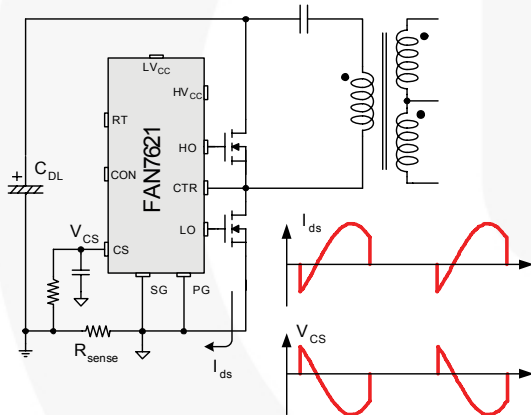
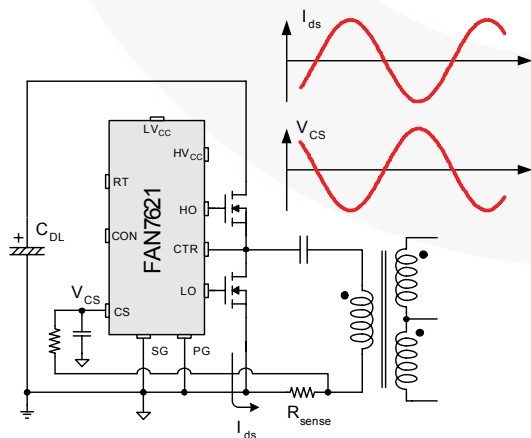

Figure 25. Half-Wave Sensing
Figure 26. Full-Wave Sensing
**5.3 Current Sensing Using Resistor:** FAN7621 senses drain current as a negative voltage, as shown in Figure 25 and Figure 26. Half-wave sensing allows low power dissipation in the sensing resistor, while full-wave sensing has less switching noise in the sensing signal.